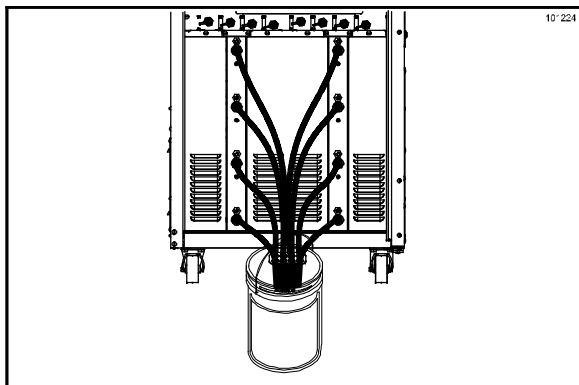

Figure 98
47. Remove the cleaning tubes from the pail and lay them across the rim of the pail. Keep the cleaning hose adaptor connected to the dispensing head. (See Figure 98.)